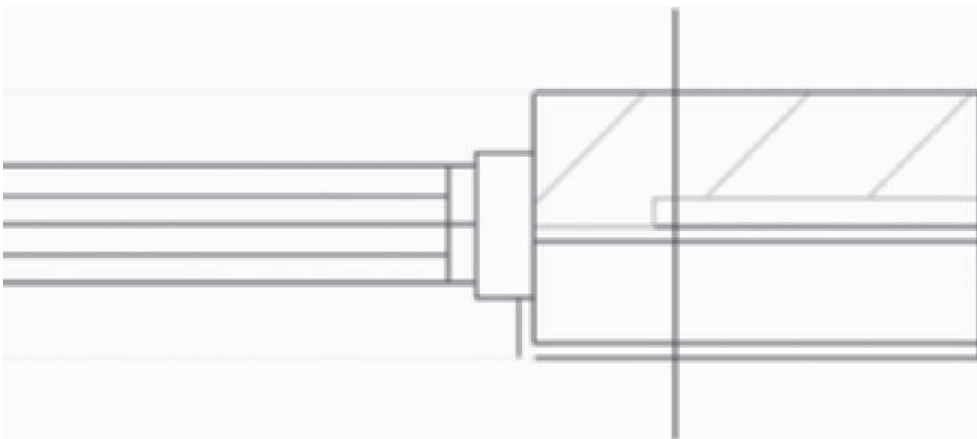

FIGURE 3.56 Opening endcap style applied to wall
14. The opening endcap style is applied as shown in Figure 3.56.